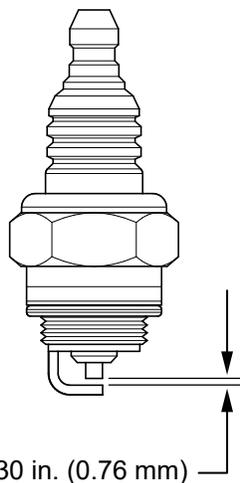

Figure 37. Spark Plug Gap
4. Measure the spark plug electrode gap (Figure 37) with a wire-type feeler gauge. If needed, adjust the gap to 0.030 in. (0.76 mm) by carefully bending the side electrode.